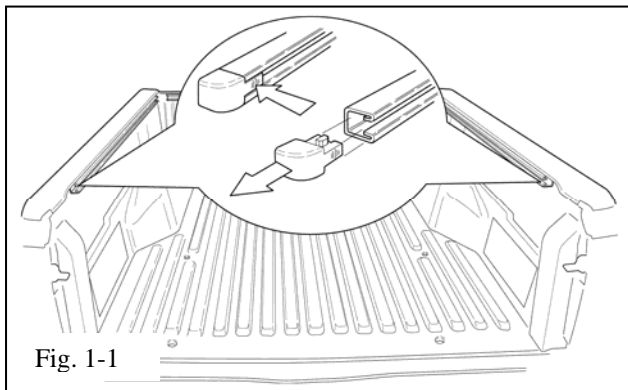

Fig. 1-1
- (a) Remove end caps from the back of each vehicle bed side rail. (Fig. 1-1)